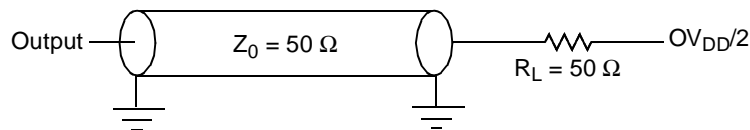

Figure 14. Local Bus C Test Load
Figure 14 provides the AC test load for the local bus.
1. All outputs are measured from the midpoint voltage of the falling/rising edge of  $t_{TCLK}$  to the midpoint of the signal in question. The output timings are measured at the pins. All output timings assume a purely resistive 50-Ω load (see Figure 14). Time-of-flight delays must be added for trace lengths, vias, and connectors in the system.
2. The symbols used for timing specifications follow the pattern of  $t_{(first\ two\ letters\ of\ functional\ block)(signal)(state)(reference)(state)}$  for inputs and  $t_{(first\ two\ letters\ of\ functional\ block)(reference)(state)(signal)(state)}$  for outputs. For example,  $t_{JTDVXH}$  symbolizes JTAG device timing (JT) with respect to the time data input signals (D) reaching the valid state (V) relative to the  $t_{JTG}$  clock reference (K) going to the high (H) state or setup time. Also,  $t_{JTDVXH}$  symbolizes JTAG timing (JT) with respect to the time data input signals (D) went invalid (X) relative to the  $t_{JTG}$  clock reference (K) going to the high (H) state. Note that, in general, the clock reference symbol representation is based on three letters representing the clock of a particular functional. For rise and fall times, the latter convention is used with the appropriate letter: R (rise) or F (fall).